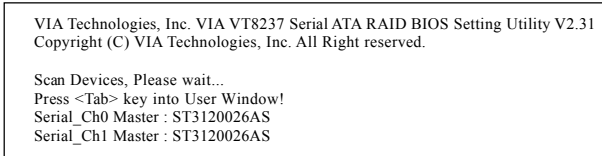

Figure 3
- 1 Upon re-boot, you will see the RAID software prompting you to press the <Tab> key to enter the VIA VT8237 SATA RAID BIOS User Window (Figure 3). Press the <Tab> key.